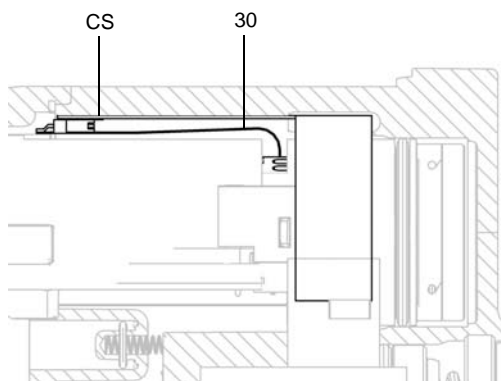

FIG. 37 . Connect Flexible Circuit
5. To separate the power supply (7) from the turbine (8), disconnect the 3-wire ribbon connector (PC) from the power supply. See FIGURE 37.
8. Insert the power supply/turbine assembly in the gun body (10). Make sure the ground strips (EE) make contact with the gun body.
Smart models only: align the connector of the 6-pin flexible circuit (30) with the socket (CS) at the top of the gun body. See FIGURE 37.